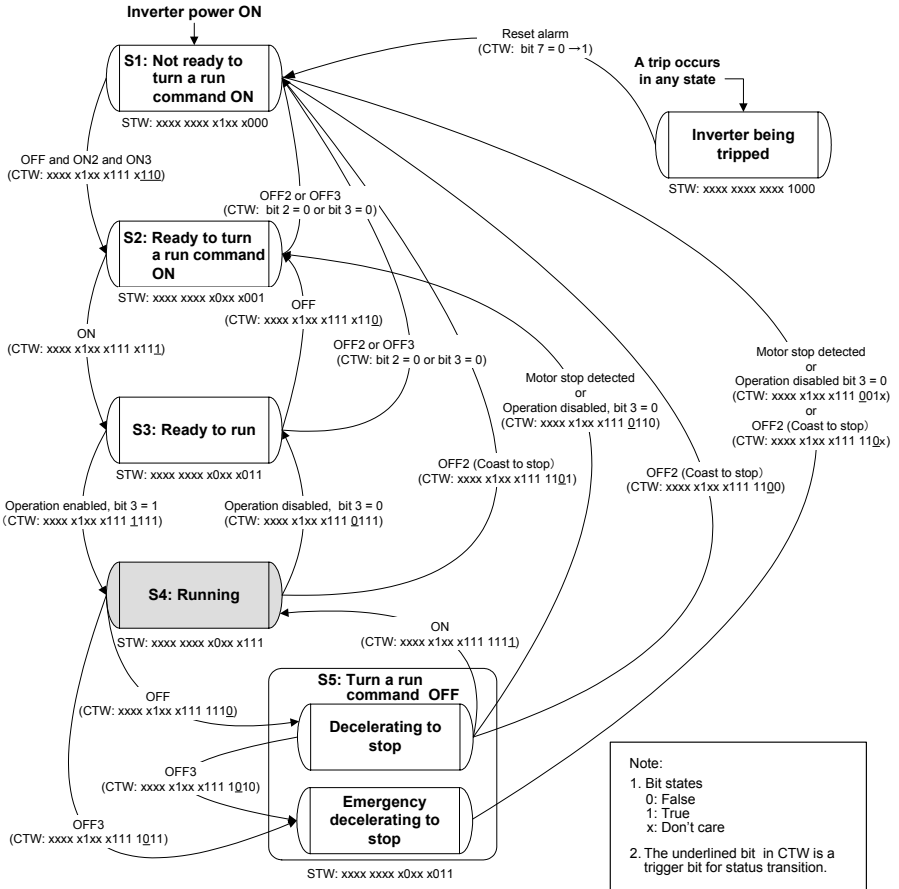

Figure 8.2 Status Transition Diagram of PROFdrive Profile
For the status transition condition of the PROFIdrive profile, refer to Section (2) "STW (status word)" and Figure 8.2 on the following pages.
(2) STW (Status word)
STW indicates the status transition of the PROFIdrive. The status transition details are shown in Figure 8.2.
Figure 8.2 shows a status transition diagram of the PROFdrive profile.
Note In Figure 8.2, to simplify the description, values of Bit 4 to Bit 6 and Bit 10 in CTW are always "1." If any one of these bit values is not "1," the inverter will not enter the running state even if the status transition properly proceeds.